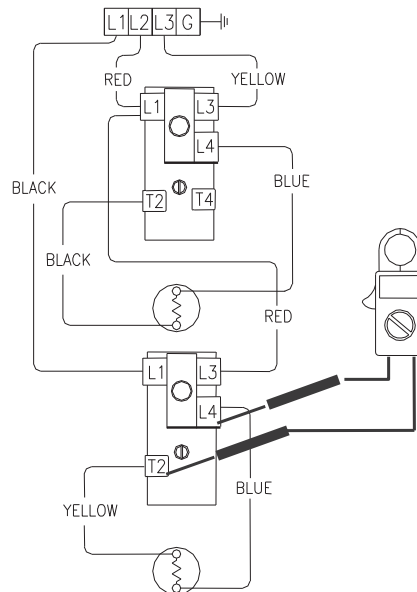

Figure 52
6. Check across terminals L4 & T2 of lower thermostat (see Figure 52).